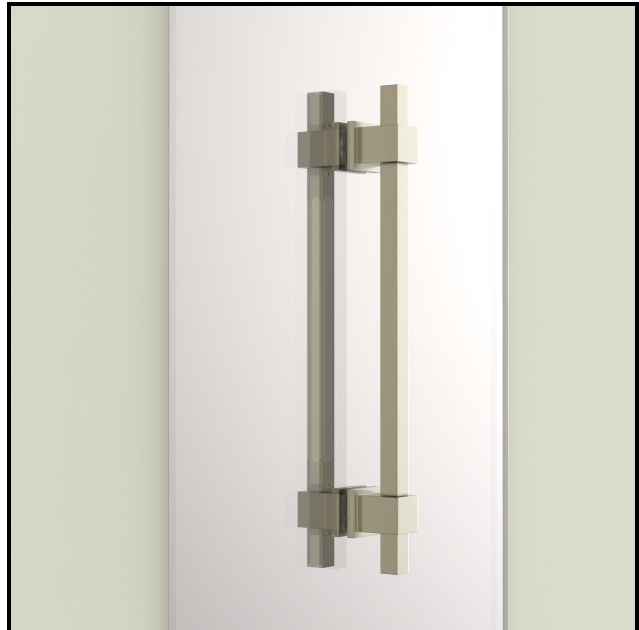

Figure 14
- Give fixture a gentle pull to make sure set screws are properly tightened (Figure 14)